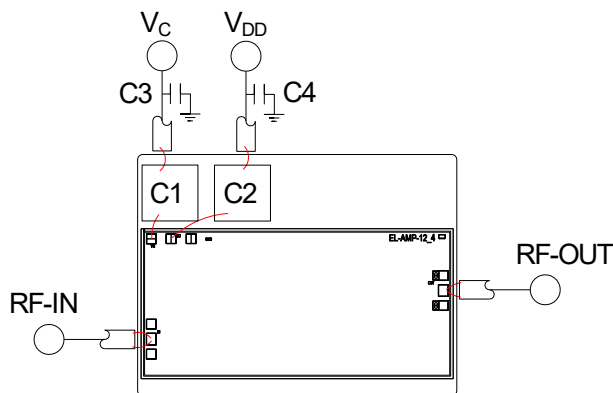

Fig 2. Characterization, Application Circuit & Assembly Drawing
1. Measured on Mini-Circuits Characterization Test Board MB-089. See Characterization Test & Application Circuit (Fig. 2)